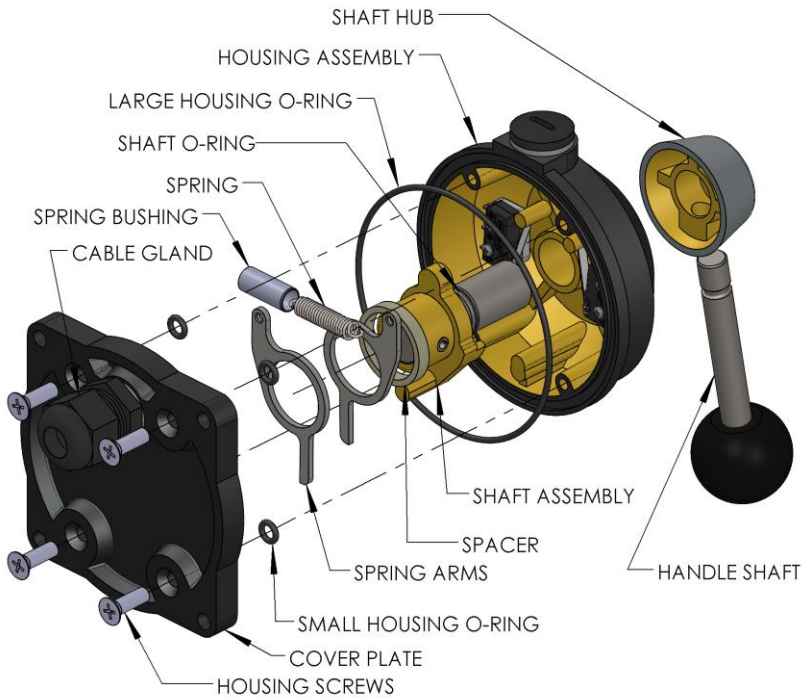

Figure 7: 7170 Parts Diagram for Maintenance
11. Reassemble unit as shown in Figure 7.